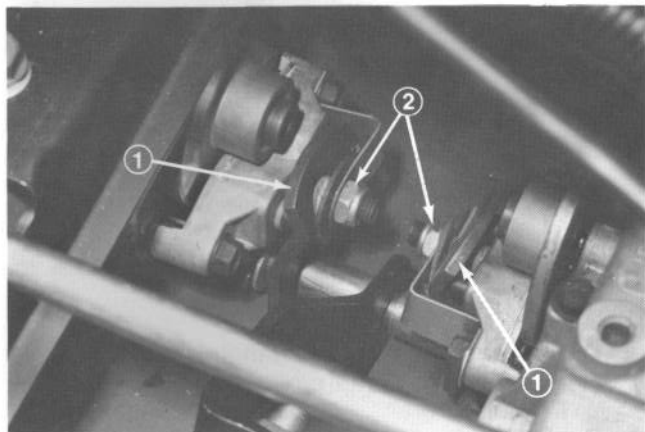

Figure 35
2. Tighten locknut on each transmission brake lever (Fig. 35) until lever cannot be wiggled from side to side. DO NOT OVERTIGHTEN.